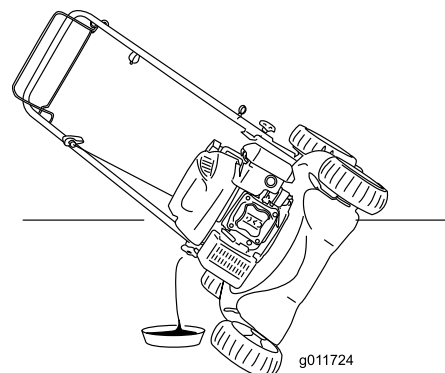

Figure 27
5. Tip the machine onto its side, with the dipstick down, to drain the used oil out through the oil fill tube (Figure 27).